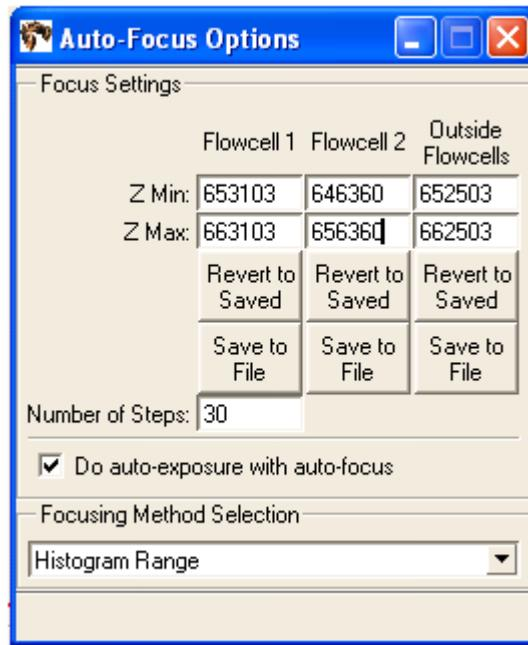

Figure 88 Enter the focus settings.
10. Subtract 5000 counts from the calculated average, then enter that value in the Z Min box. Add 5000 counts to the average, then enter that value into the Z Max box. Confirm that the Number of Steps is **30**. Click **Save to File** (see Figure 88).